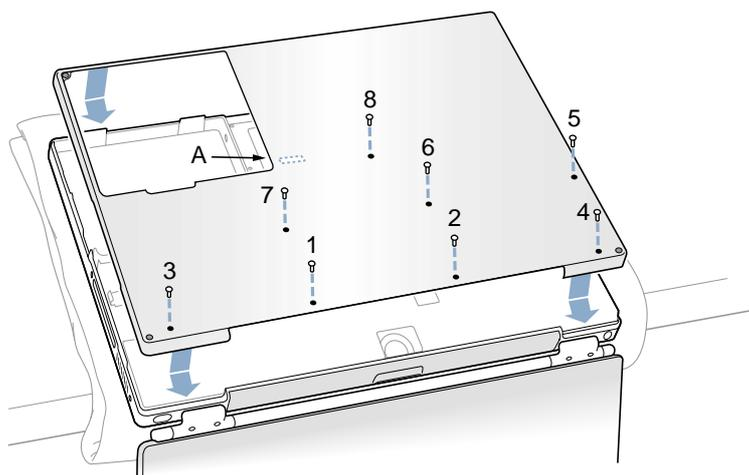

Figure 15
4. Replace the eight screws in the order shown in the illustration (**Figure 15**). Do not overtighten the screws or damage could result.